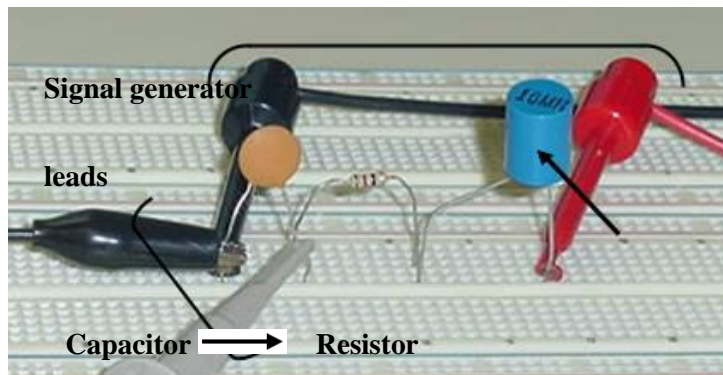

Fig. 13. Series RLC Circuit
as shown below (Fig. 13). Remember inductor resistance!
5.3.2. Connect oscilloscope across the capacitor (Fig. 13). Press “Autoscale” to see a waveform that is close to that in Figure 10.